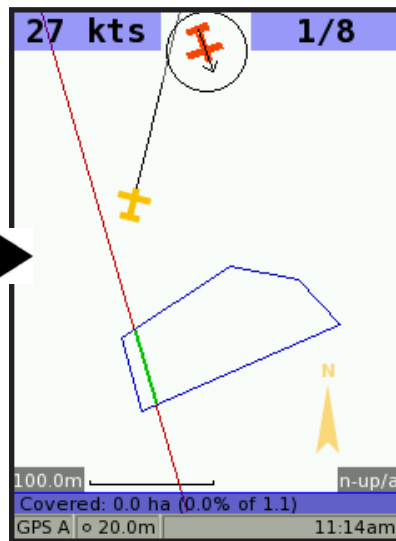

fig 3.2.1b
3.2.4 Your AB Line is now set (fig. 3.2.1b).